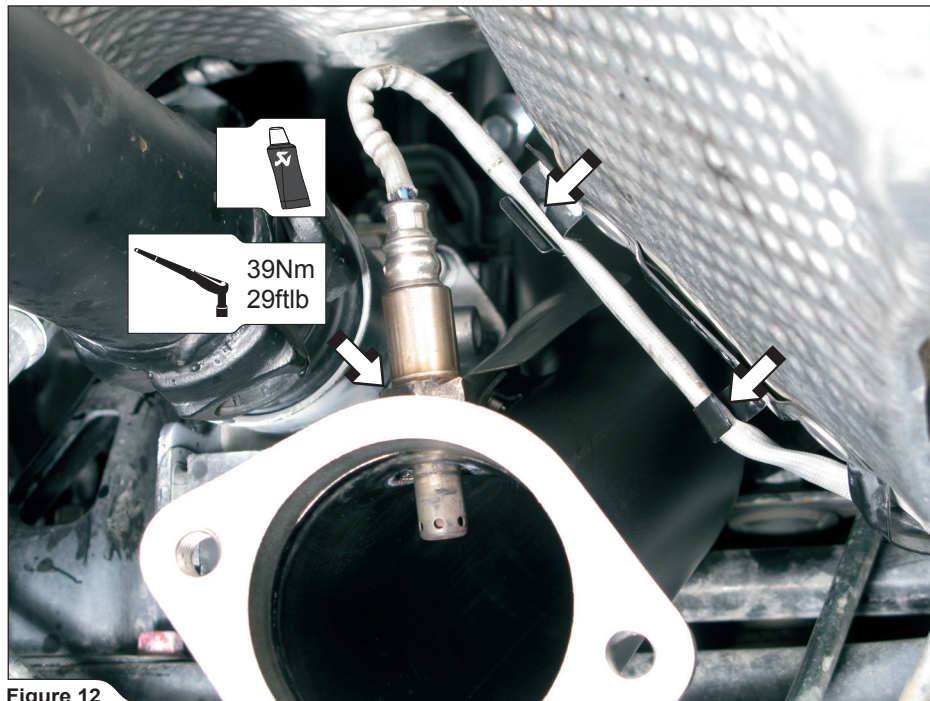

Figure 12
3. **For optional Down-Pipe only:** install the lambda sensor and fasten the lambda sensors' electrical lead (Figure 12).